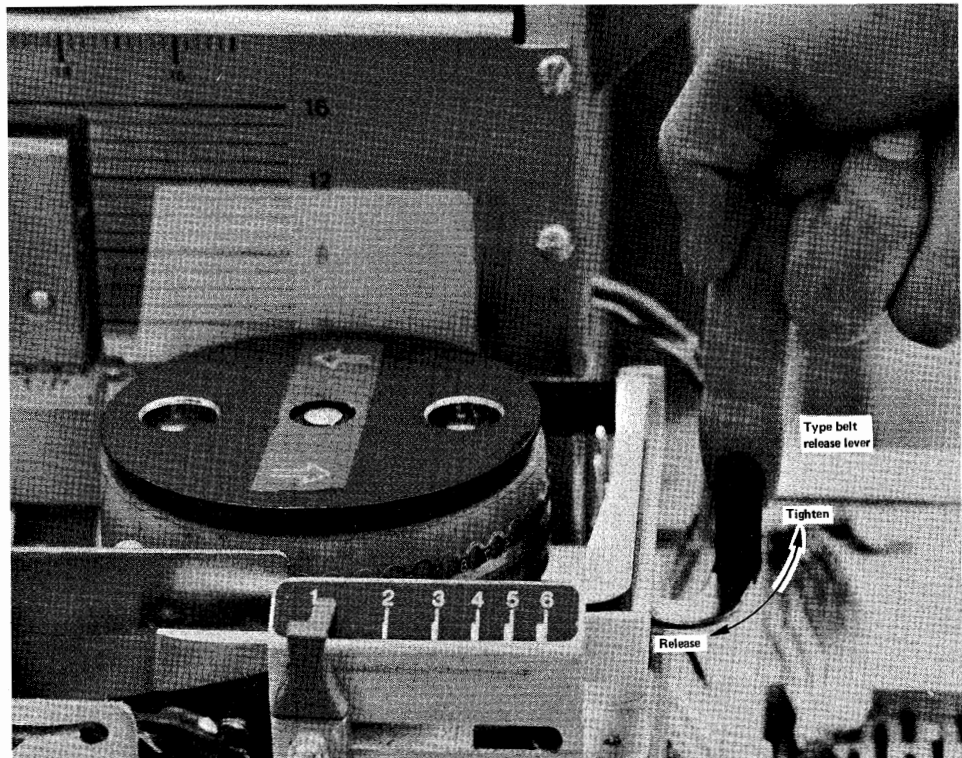

Figure 11-10. Releasing Print Belt Tension
- 2 Pull the print belt release lever forward to loosen belt tension as shown in Figure 11-10.
- 4 Move the print belt release lever to the rear to tighten the belt on the pulleys as shown in Figure 11-10.